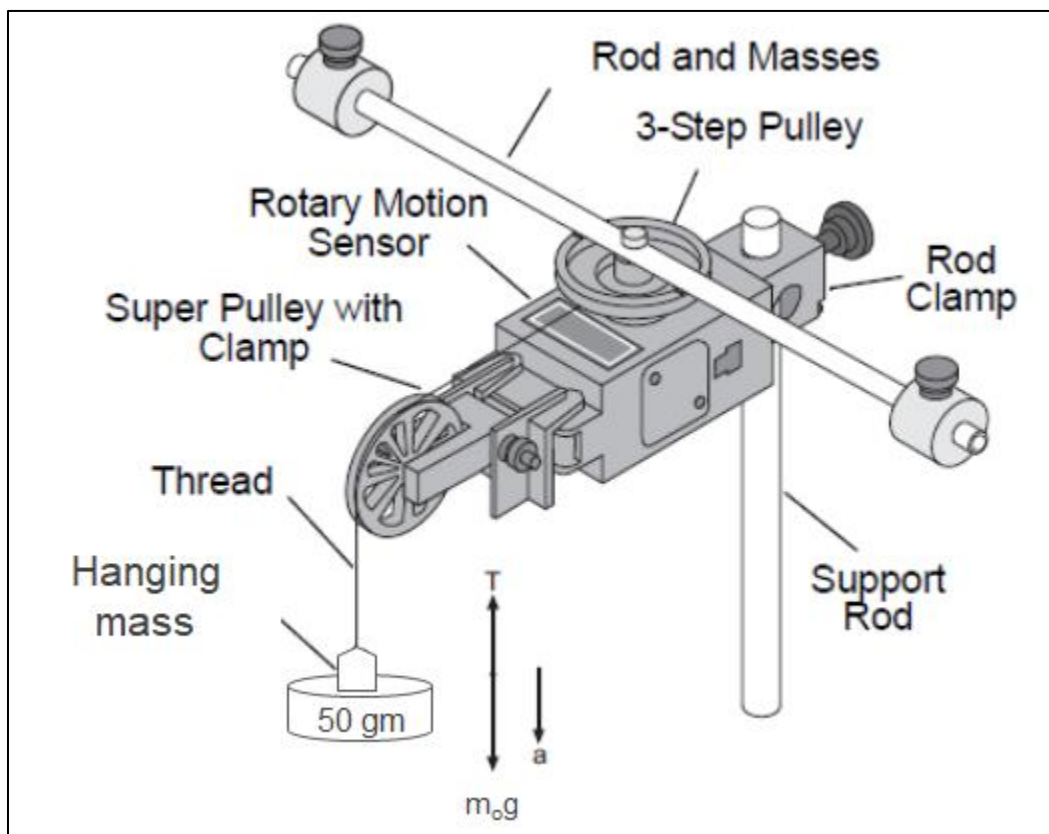

Figure 1.1: Rotary motion sensor and free body diagram
For Figure 1.1, Solving for the tension in the thread gives:
4. Mount the Rotary Motion Sensor on a support rod and connect it to a PASPORT-compatible interface. Make sure that the support rod does not interfere with the rotation of the rod and masses (Figure 1.1).
6. Drape the thread over the Super Pulley such that the thread is in the groove of the pulley and the hanging Mass hangs freely (Figure 1.1).